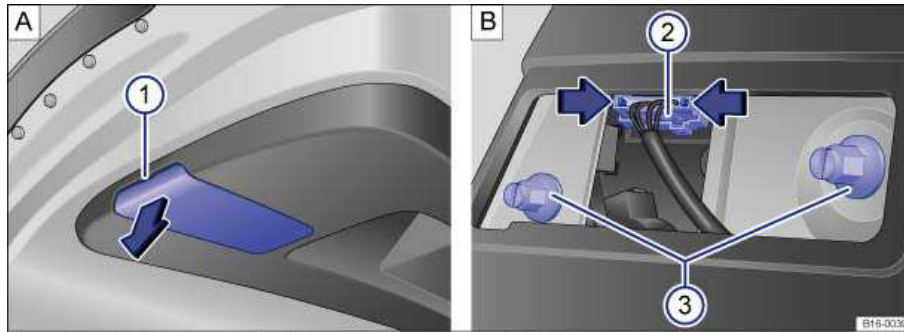
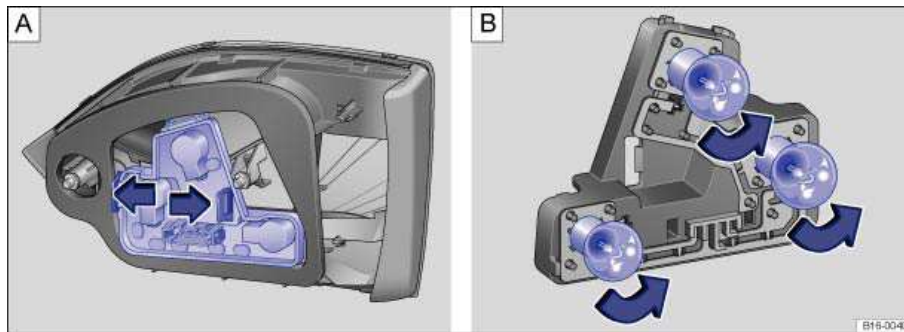

Fig. 175 In the luggage compartment lid. A: Removing the taillight cover. B: Removing the taillight assembly.
Fig. 176 Taillight assembly. A: Removing the bulb holder. B: Removing the light bulbs.
3.	Using the flat blade of the screwdriver from the vehicle tool kit carefully pry the cover off the slot ⇒ fig. 175 A (1) .
4.	Unscrew the fastening screws B (3) with your hand and carefully remove the taillight assembly from the luggage compartment lid.
5.	Press together the release tabs for the connector plug B (2) in the direction of the arrow and pull the connector plug off.
6.	Unlock the bulb holder by pressing the locking tabs in direction of the arrow ⇒ fig. 176 A and remove the bulb holder from the taillight assembly.
9.	Attach the connector plug ⇒ fig. 175 B (2) to the bulb holder.
10.	Carefully reinsert the taillight assembly into the opening in the luggage compartment lid. Hold the rear light assembly with one hand in the installation position and with the other hand, tighten the fastening screws B (3) .